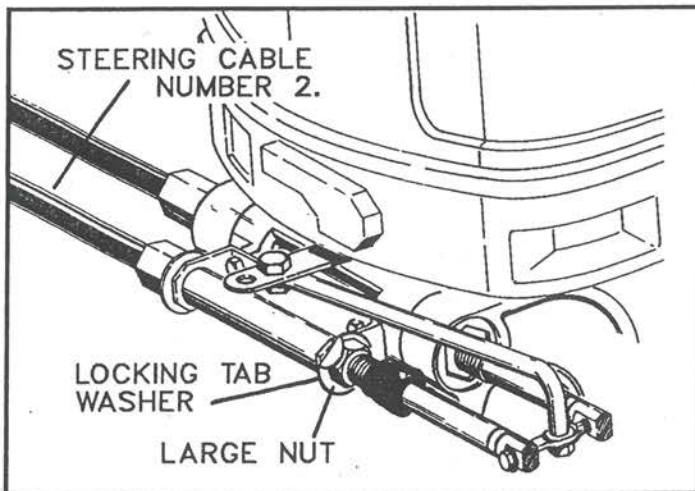

FIGURE 9 COMPLETING INSTALLATION
See **Figure 9**.
- E. Tighten the starboard *Support Tube Nut* to 35 ft. lbs., and bend the locking tabs on the *Locking Tab Washers* over onto the *Mounting Bracket* or *Nut*, as shown in **Figure 9**.